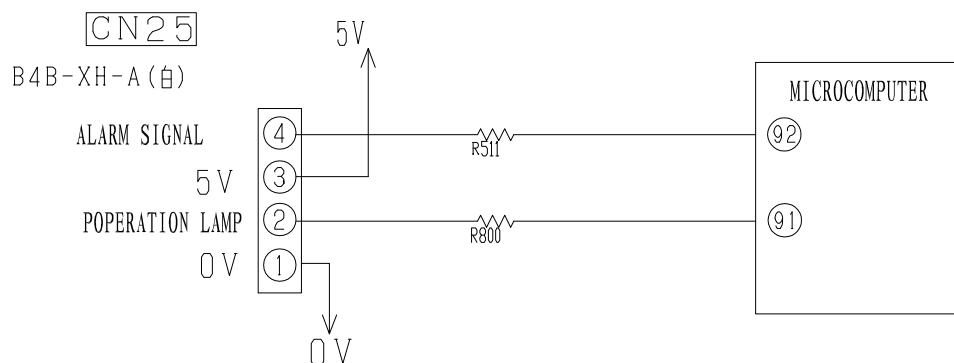

Fig.15-1
Fig. 15-1 is the control circuit of run status and signal output in main PWB. The pin② of CN25 is used to show run status and the pin④ of CN25 is used to warn people when failure occurrence. If customer want to use this function, need to use the adapter (sold separately) to achieve it. the adapter is optional and the detail circuit refer to following circuit.